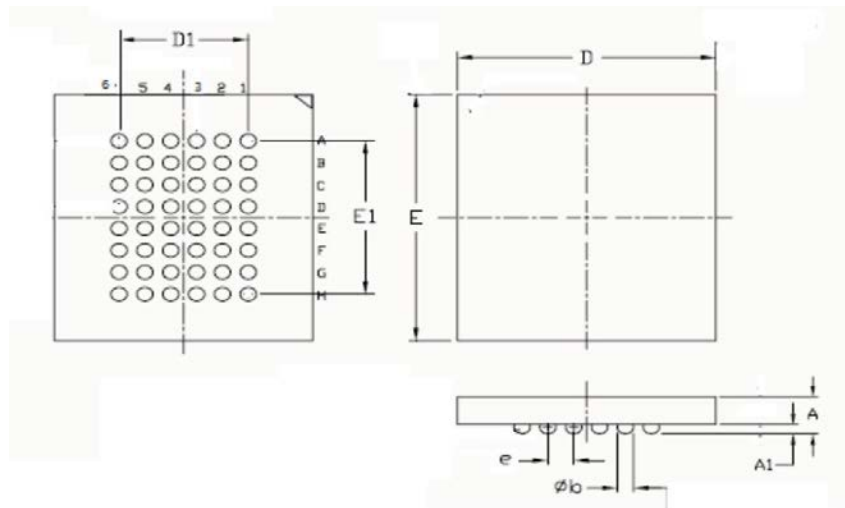

Figure 19.
- The device adopts 48-lead FBGA package, and its dimensions refer to the provisions of GB/T 7092-1993. The shell shape is shown in Figure 19.